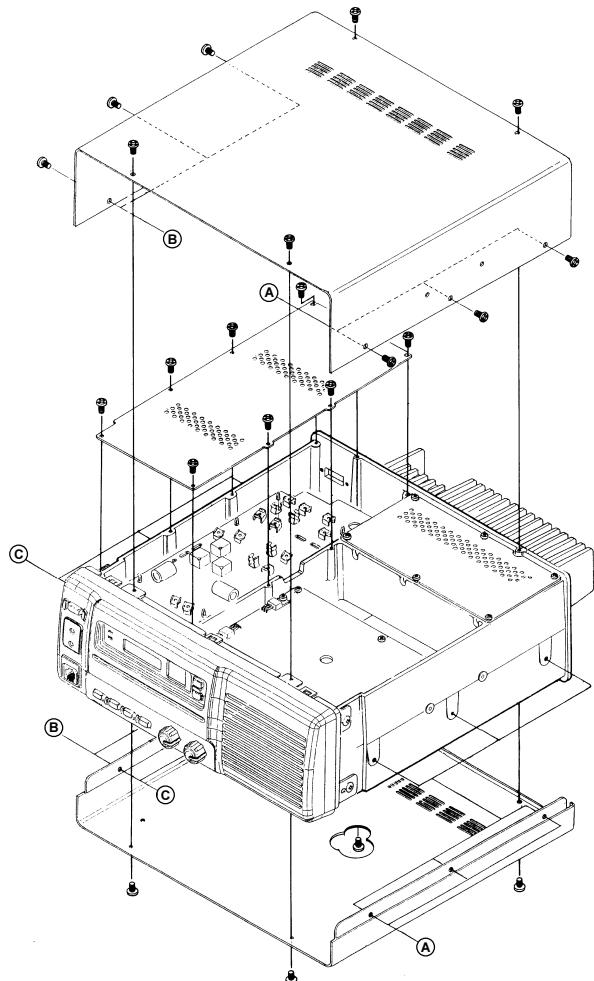

Figure 1
- Referring to Figure 1, remove the 14 screws affixing the top and bottom covers of the repeater, and remove the covers.
- Remove the eight screws affixing the shield cover for the FILTER Unit, and remove the cover (see Figure 1).